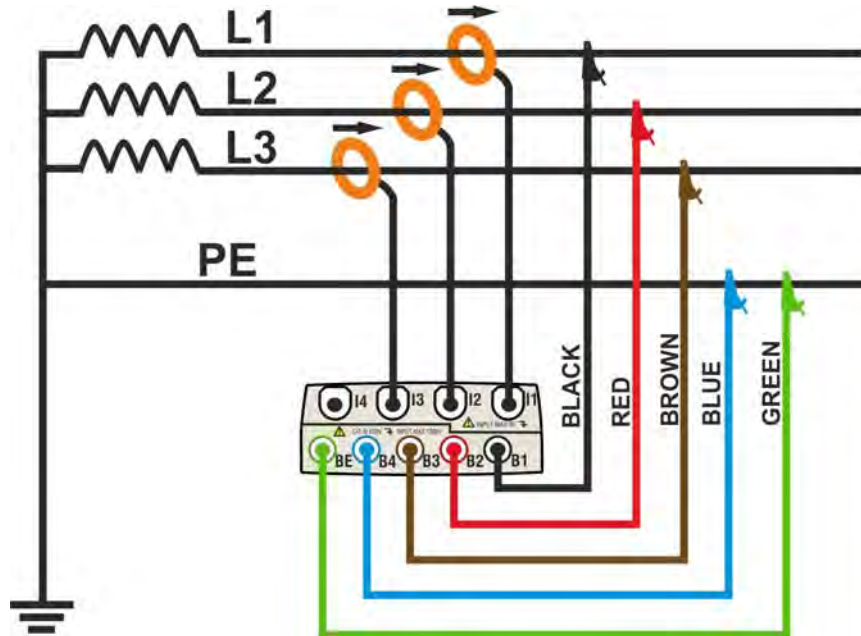

Fig. 118: Meter connection in a three phase 3-wire system
2. Connect voltage test leads on Phases L1, L2, L3, and Ground cables respecting the colours as shown in Fig. 118. **Verify the result "123" at display relative to a correct phase sequence indication** (see § 5.2.1) and perform the corrections if necessary.
3. Connect the transducer current clamps on Phase L1, L2, L3 cables as shown in Fig. 118 respecting the clamp's arrow direction indicating the current standard sequence from generator to load. **On Real Time Values' section screens always verify the positive value of Active Power and the power factor relative to load which should be normally inductive** before starting a recording. Reverse the clamp by 180 degrees on cables in case of negative readings.